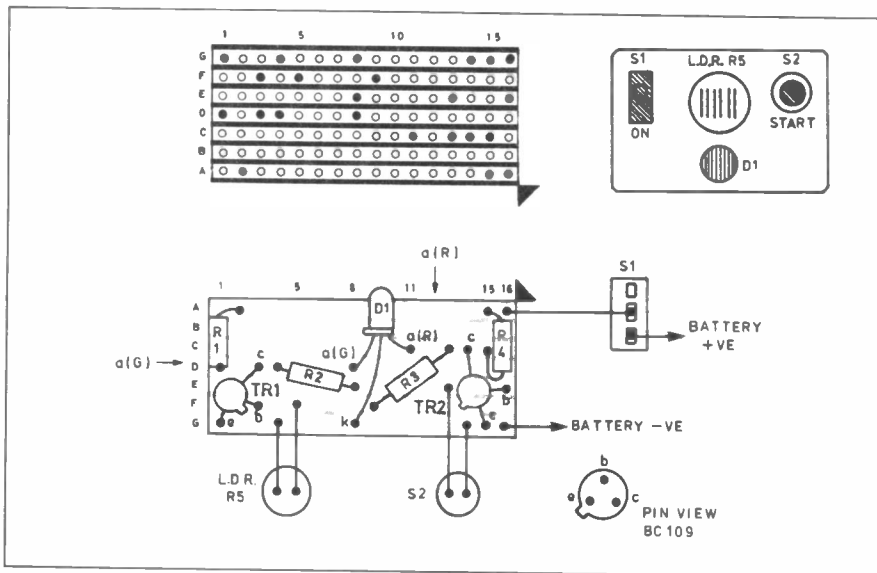

Fig. 4. Stripboard layout details for the "Target Badge" circuit. The inset shows a possible "Badge" layout.
The suggested stripboard layout for the small circuit is shown in Fig.4. There are no track cuts required on this board. Be sure to observe the correct polarities of
l.e.d. D1 and transistors TR1 and TR2. A suggested "Target Badge" layout and its wiring detail is shown in Fig. 4. The badge can be made from any rigid material sized to your choice. This sub-circuit can be powered by a 9V battery.